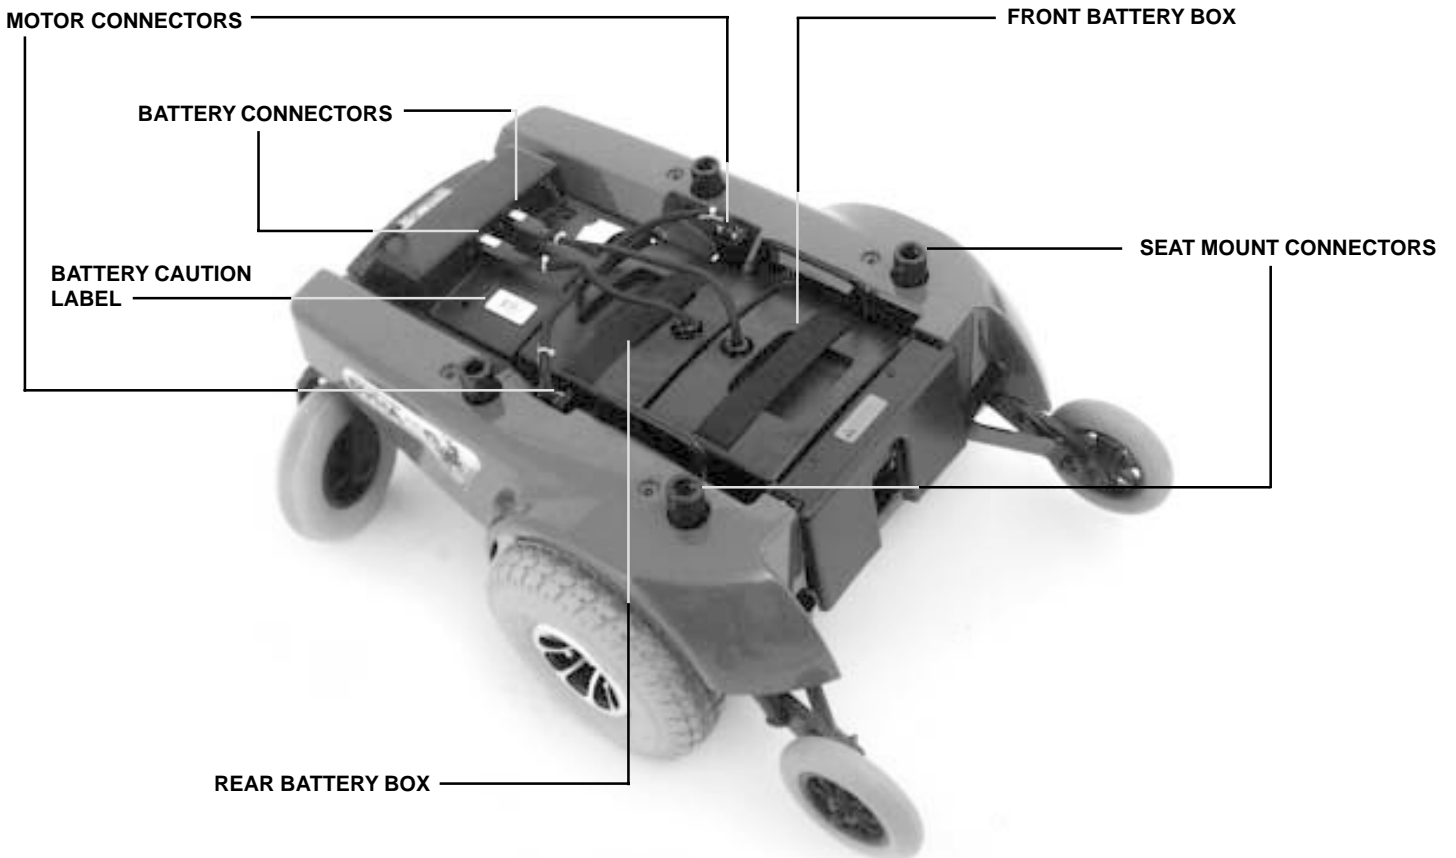

Figure 4. Power Base Top View
- **Battery Connectors:** These provide connection between the battery boxes and the electronics tray. See figure 4.
- **Motor Connectors:** These provide connection between the motors and the electronics tray. See figure 4.